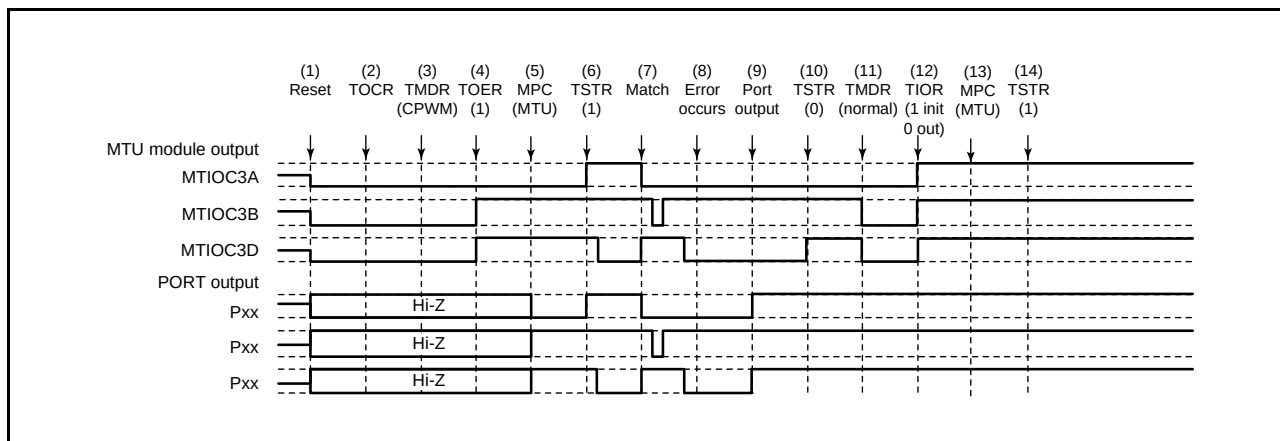

Figure 23.136 Error Occurrence in Complementary PWM Mode, Recovery in Normal Mode
Figure 23.136 shows a case in which an error occurs in complementary PWM mode and operation is restarted in normal mode after re-setting.
(1) to (10) are the same as in Figure 23.136.
(11) Set PWM mode 1 (MTU output goes low).
(12) Initialize the pins with the TIOR register. (In PWM mode 1, a waveform is not output on the MTIOCnB (MTIOCnD) pins. If a level is to be output, make the required general output port settings in the I/O port's port direction register (PDR) and port output data register (PODR).)
(13) Use the MPC and the port mode register (PMR) for the I/O port to set up MTU output.
(14) Restart operation by setting the TSTR register.
(23) Operation When Error Occurs in Complementary PWM Mode and Operation is Restarted in Complementary PWM Mode
(11) Use the MPC and the port mode register (PMR) for the I/O port to set up MTU output.
(12) Restart operation by setting the TSTR register.
(13) The complementary PWM waveform is output on compare match occurrence.
(24) Operation When Error Occurs in Complementary PWM Mode and Operation is Restarted in Complementary PWM Mode with New Settings
(11) Set normal mode and make new settings (MTU output goes low).
(12) Disable output in MTU3 and MTU4 with the TOER register.
(13) Select the complementary PWM mode output level and enable or disable cyclic output with the TOCR register.
(14) Set complementary PWM mode.
(15) Enable output in MTU3 and MTU4 with the TOER register.
(16) Use the MPC and the port mode register (PMR) for the I/O port to set up MTU output.
(17) Restart operation by setting the TSTR register.
(25) Operation When Error Occurs in Complementary PWM Mode and Operation is Restarted in Reset-Synchronized PWM Mode
(11) Set normal mode (MTU output goes low).
(13) Select the reset-synchronized PWM mode output level and enable or disable cyclic output with the TOCR register.
(14) Set reset-synchronized PWM mode.
(26) Operation When Error Occurs in Reset-Synchronized PWM Mode and Operation is Restarted in Normal Mode